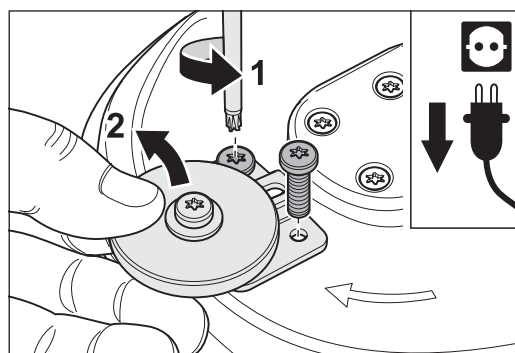

Fig. 72 Undo the fixing screws (1) and remove the complete wall-protecting roller (2).
- 3 Undo the two screws attaching the holder of the wall-protecting roller to the attachment (fig. 72, 1) and remove the complete wall-protecting roller (fig. 72, 2).